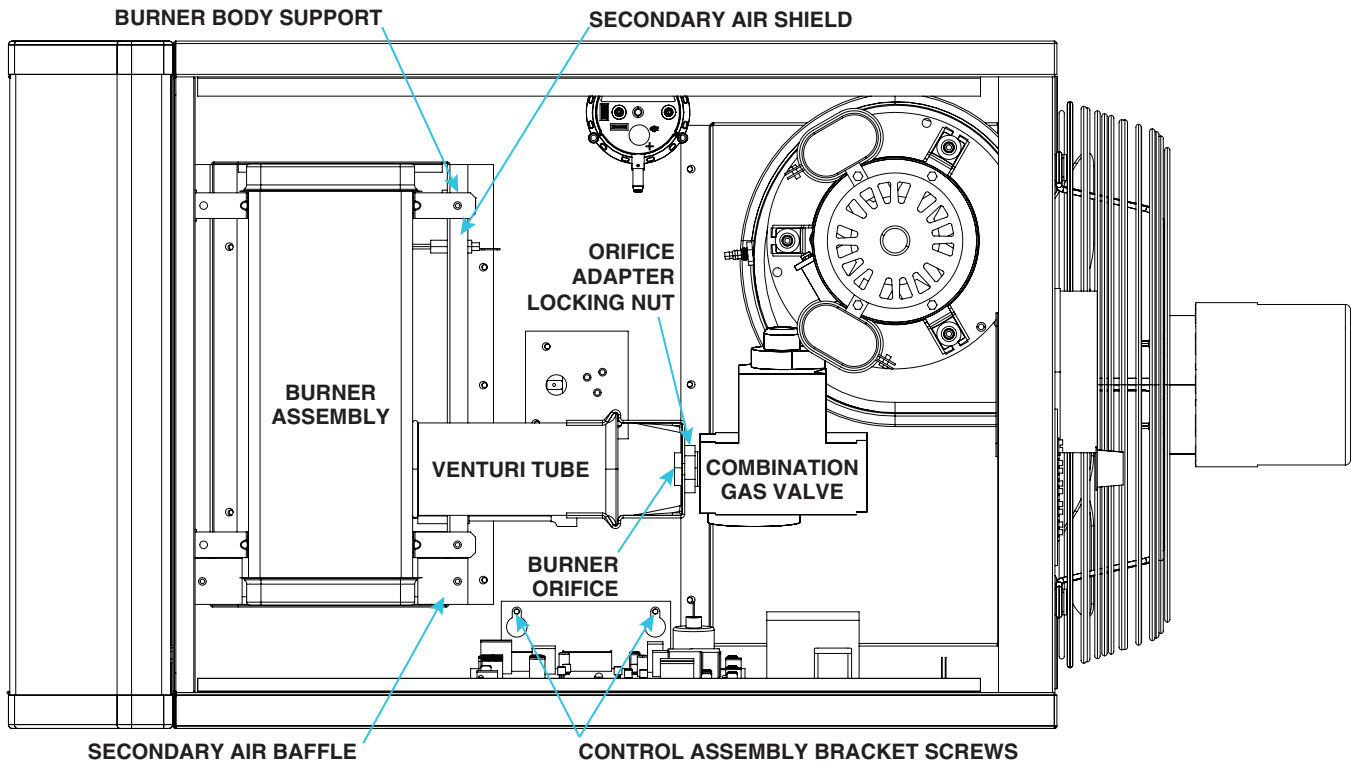

Figure 12. Typical Burner Assembly
Visually inspect the burner compartment (see Figure 12). If there is an accumulation of dirt, dust, and/or lint, clean the compartment and remove and clean the burner as follows:
2. Remove burner assembly (see Figure 12):
- (1) Remove four screws that secure end cap to burner housing.
- (2) Lightly tap end cap to remove it.
5. Re-install burner assembly (see Figure 12):